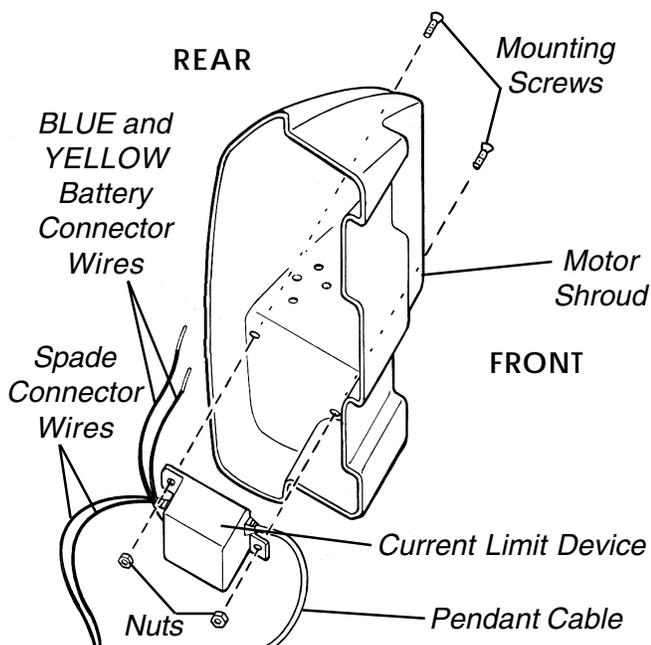

FIGURE 6 - REMOVING CURRENT LIMIT DEVICE
**Removing Current Limit Device (FIGURE 6)**
1. Remove the two (2) mounting screws and nuts securing the current limit device to the motor shroud.
### Installing NEW Current Limit Device (FIGURE 6)
1. Position the NEW current limit device on the inside of the motor shroud with the blue and yellow battery connector wires towards the REAR of the shroud and the pendant cable towards the FRONT of the shroud as shown in FIGURE 6.
2. Align the mounting holes of the current limit device and the motor shroud and secure with the two (2) existing mounting screws and nuts. Tighten securely.